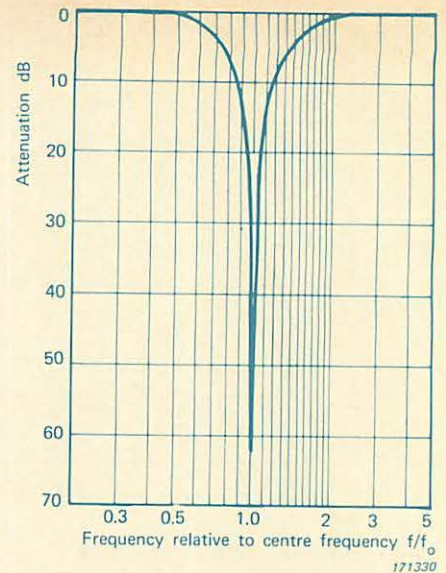

Fig. 8. Bandstop filter rejection curve
(2) **Bandstop Filter.** This has an attenuation of greater than 60 dB at the tuned frequency and an octave frequency attenuation of 1 dB. See Fig. 8.